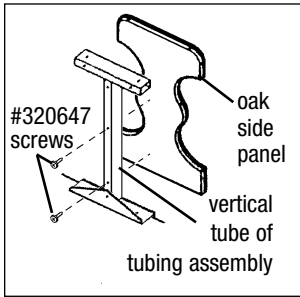

Figure 2
- On one end of table, place oak side panel against outer side of tubing assembly. Secure with two #320647 screws through vertical tube of tubing assembly and into oak side panel as shown in *Figure 2*, using the 2nd and 3rd holes from the bottom.